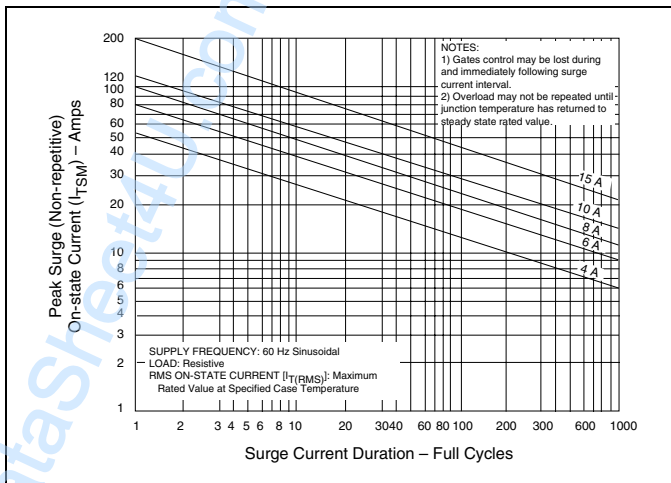

Figure E3.9 Peak Surge Current versus Surge Current Duration
- See Figure E3.9 for surge ratings with specific durations.